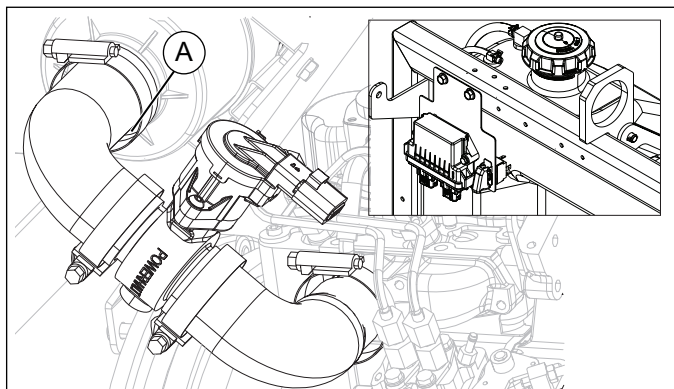

Figure 3-53. Positive Air Shutdown
See **Figure 3-53**. This unit may be equipped with a positive air shutdown valve (A) on the air intake. The PAS system automatically stops the engine if an over speed is detected. Engine over speed can occur if the atmosphere contains elevated levels of combustible propane or natural gas.